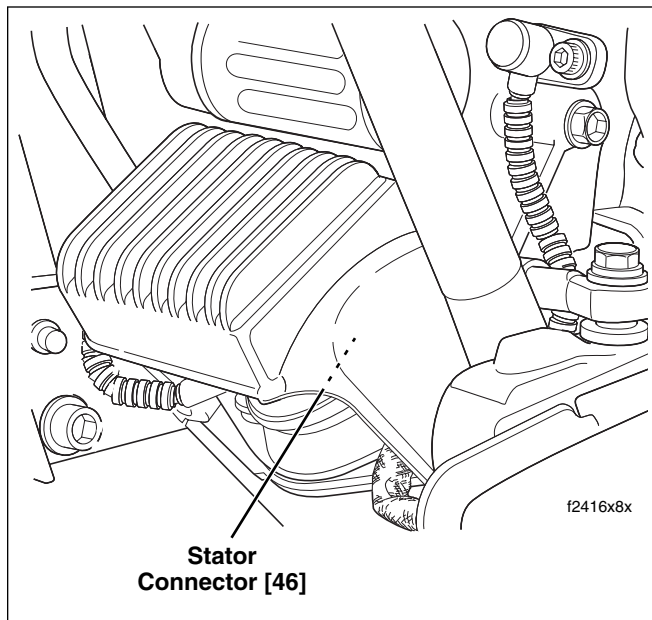

Figure 8-13. Voltage Regulator (Left Side View)
7. Feed socket and conduit under front engine stabilizer link and then forward along outboard side of voltage regulator leg. See Figure 8-13.